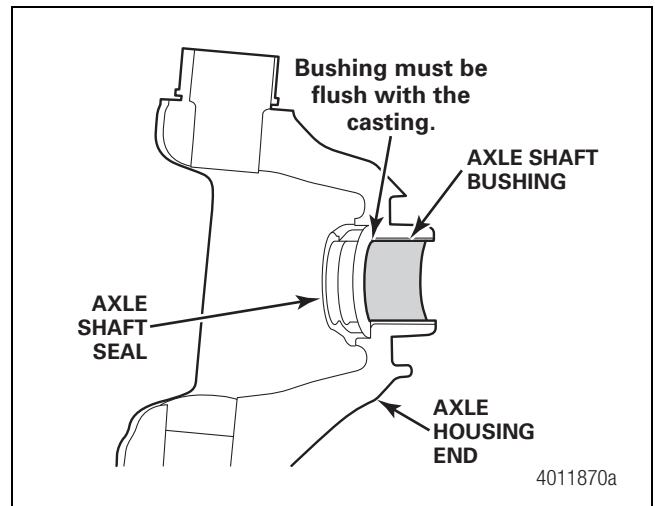

Figure 8.2
2. Ensure the bushing is flush with the outer surface as shown in Figure 8.2.